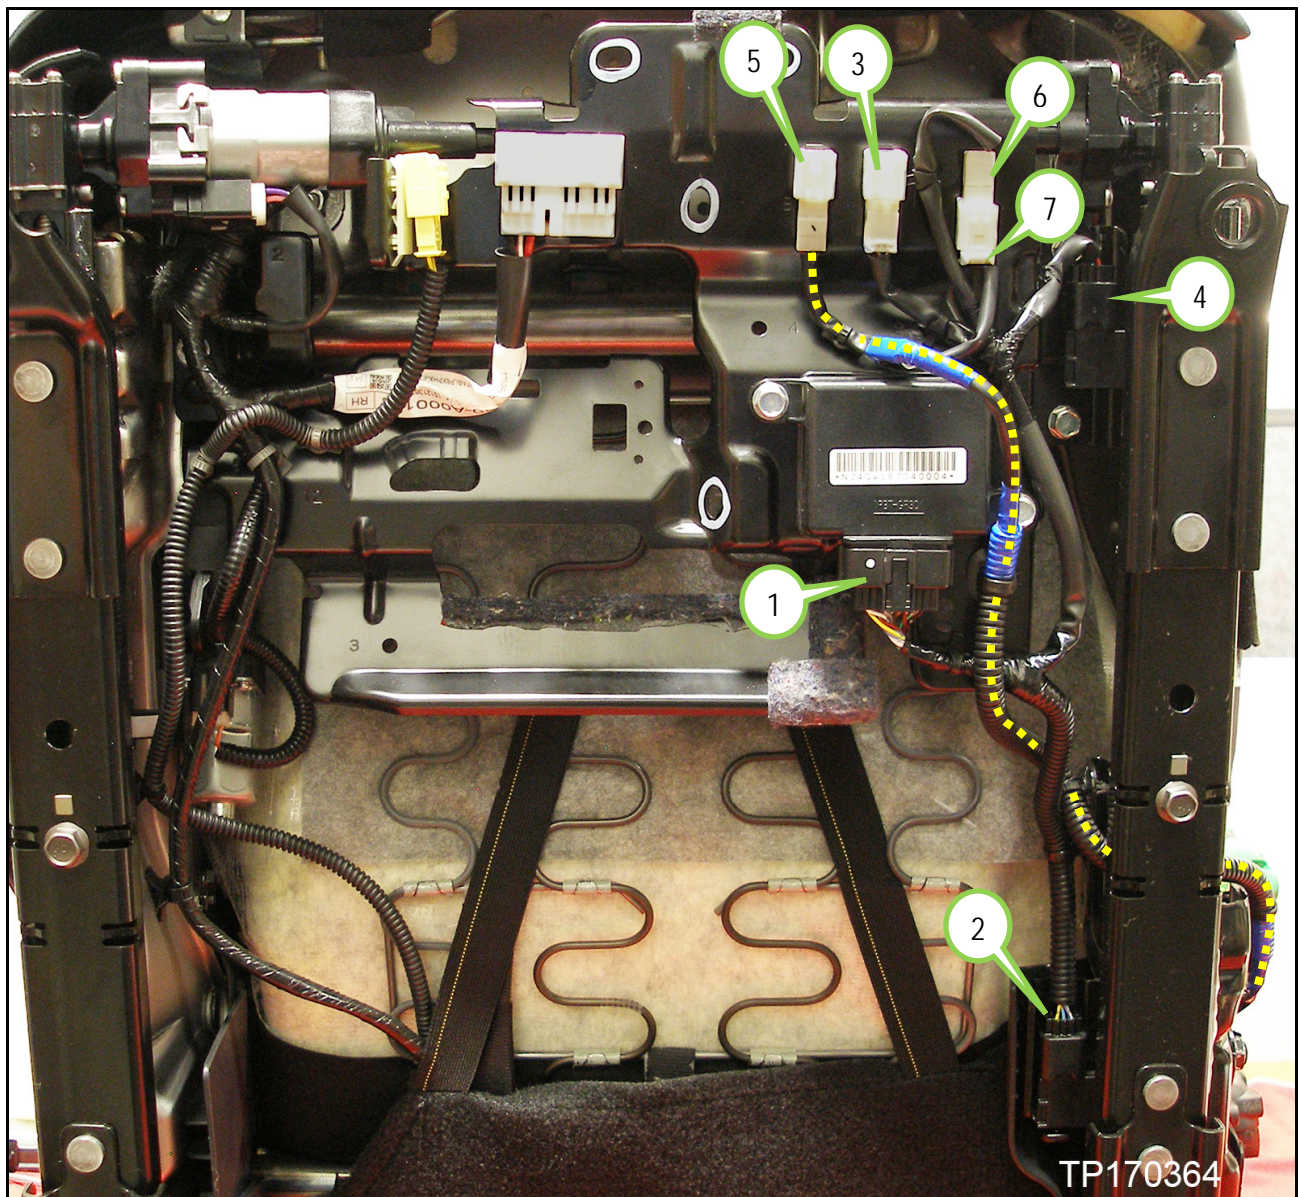

Figure 11
29. To assist with correct harness routing, first install only the harness connectors shown in Figure 11 in the following order.